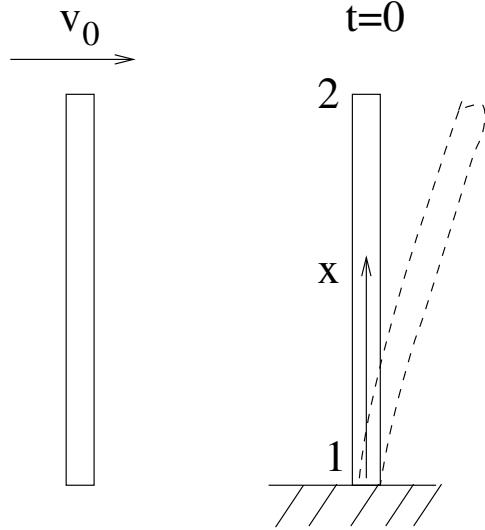

Figure 3: Problem 3
3. The bottom of a beam of length $L = 1$, moment of inertia $I = 1$, Young modulus $E = 1$, cross sectional area $A = 1$ and density $\rho = 210$, travelling with uniform velocity $v_0 = 1$ is suddenly fixed at time $t = 0$ as shown in Fig. 3. Modelling the entire beam by one beam element, and using the energy-momentum conserving algorithm given by